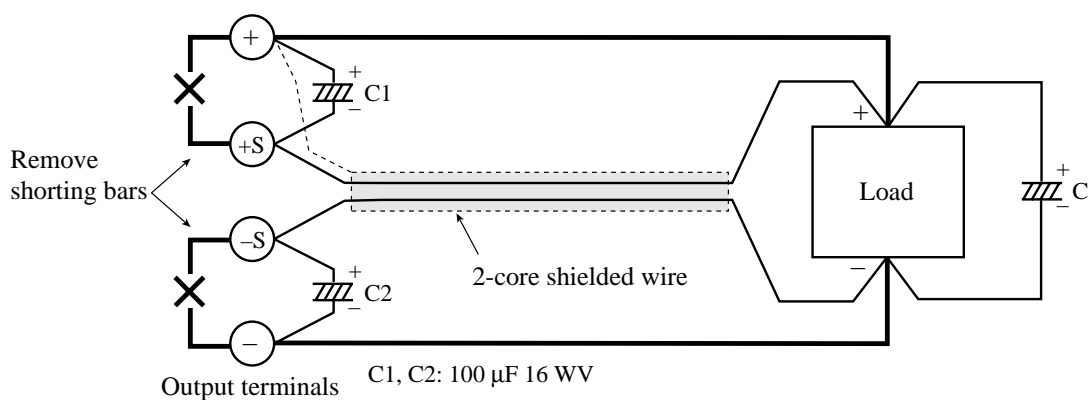

Fig. 4-1 Remote sensing connection
2. As shown in Fig. 4-1, remove the sensing shorting bar.
3. Install sensing wires between the sensing terminals (+S and -S terminals or SAMPLING terminals) and the load ends, as shown in Fig. 4-1.